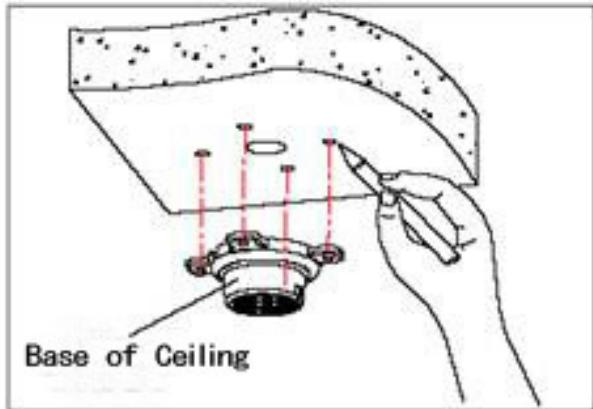

Fig 12
- As shown in fig 12, with the installation holes in the base of ceiling as pattern, draw punched locations in the ceiling and punch to install M6 expansion bolt.